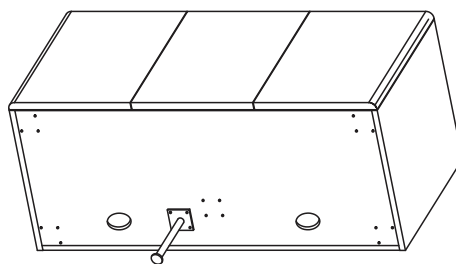

Fig.7
9. Take out the middle leg and screw from the hardware pack. Align with the hole on the bottom board and fix the middle leg, as shown in Fig.7.